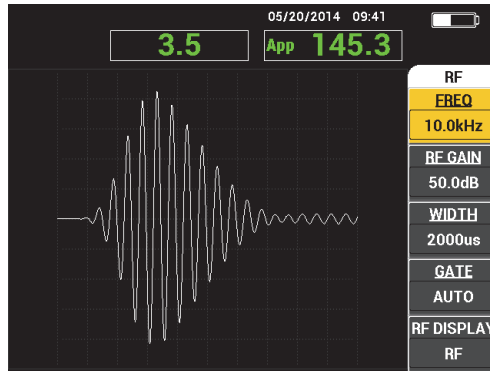

Figure 5-4 The PC (RF) main menu
The following parameters can be adjusted on the PC (RF) main menu (see Figure 5-4 on page 82):